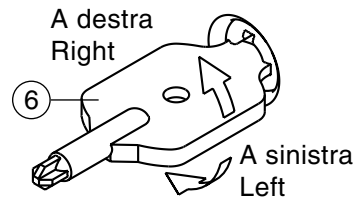

Fig. 6
4.2 (Fig. 6) Adjustment of the area's width: